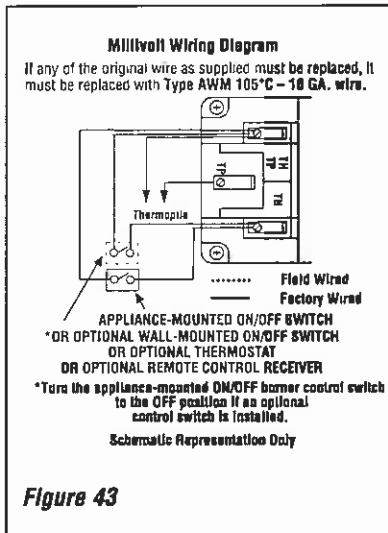

Figure 43
A. Millivolt Wiring (See Figure 43) –